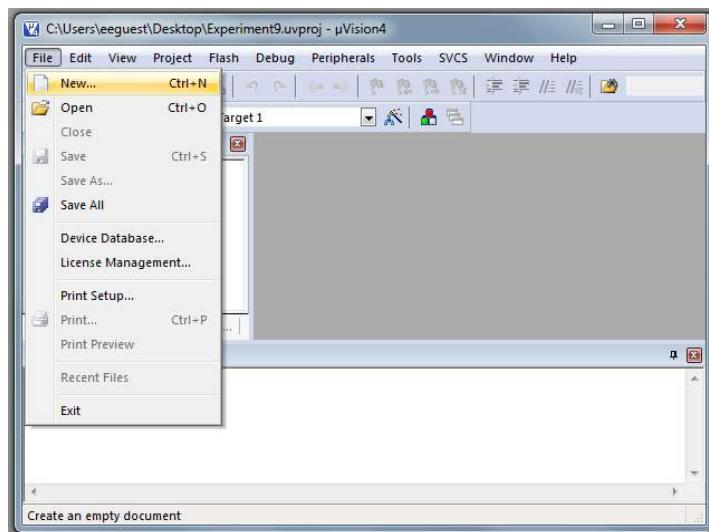

Figure 9.7: Opening a new file.
- 6) Go to File → New as shown in Figure 9.7.